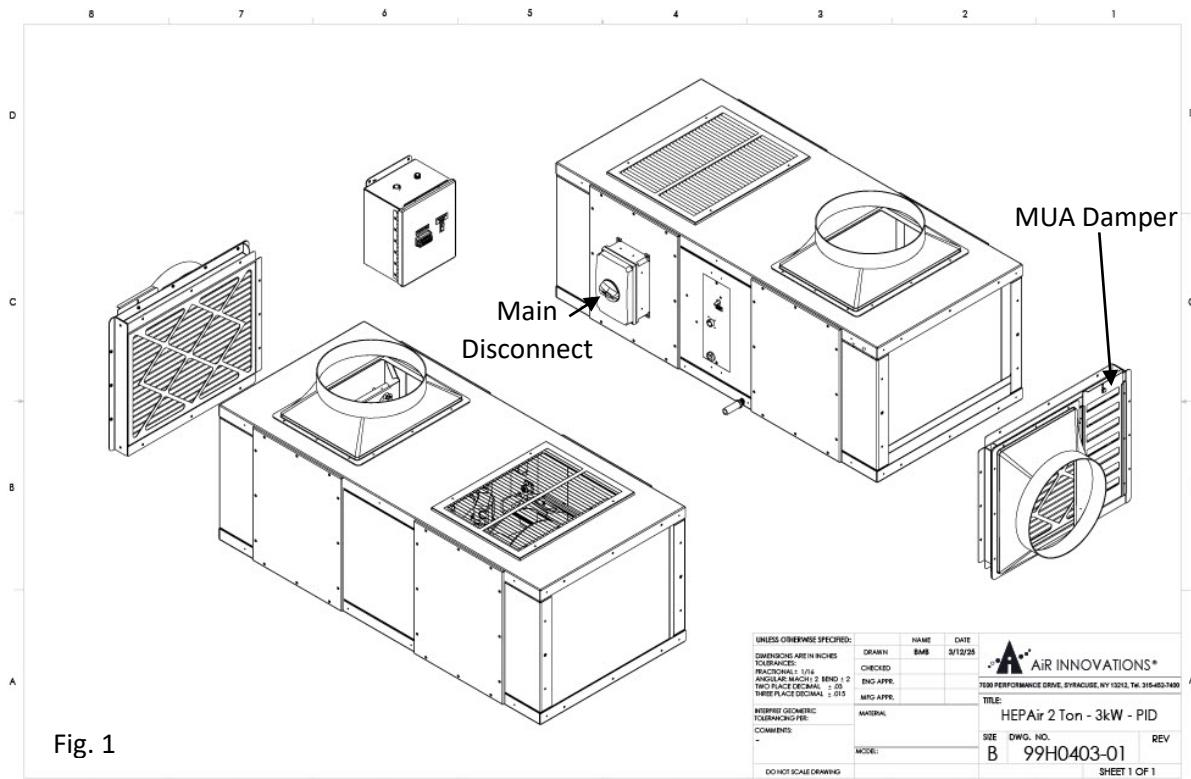

Fig. 1
HEPAir units can be configured as either the positive pressurizing MUA damper or non-pressurized prefilter (Fig. 1 & 2). This should be determined at time of order, but if it needs to be adjusted, this can be done by purchasing the appropriate inlet connect.
(Refer to Fig. 1 above showing controller locations)
2. Note that the Potentiometer (see Fig. 1) controlling the blower is pre-set to an output motor frequency such that the blower/impeller will generate a CFM value approximately within specifications.